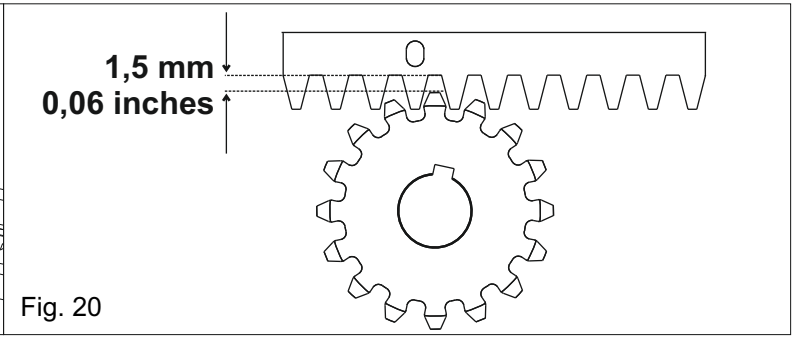

Fig. 20
- f) To avoid that the gate weights down the pinion (Fig.20) lift up the whole rack about **1,5 mm / 0,06 inches**